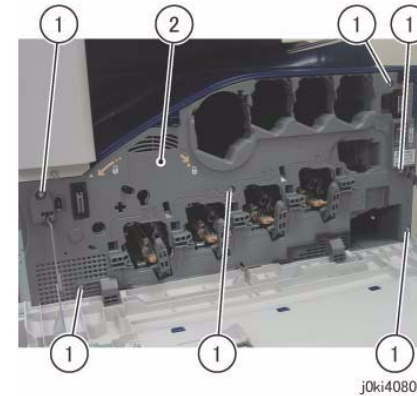

Figure 2 Remove the Front and Inner Cover together
6. Remove the Front Cover together with the Inner Cover. (Figure 2)